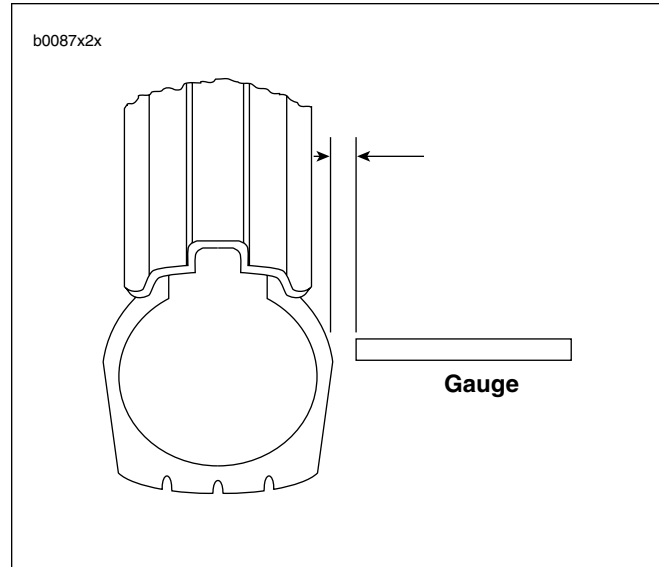

Figure 2-34. Checking Tire Lateral Runout
1. See Figure 2-34. Turn wheel on axle and measure amount of displacement from a fixed point to tire sidewall.